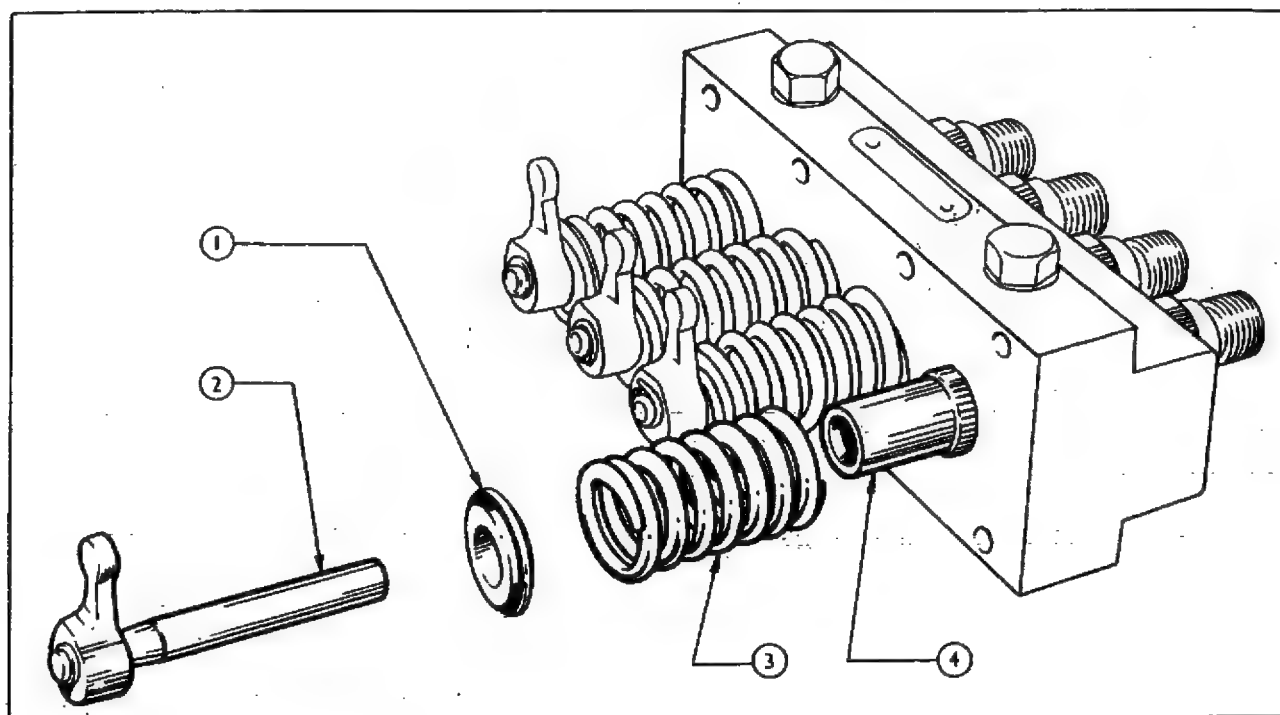

Fig. 20
5. Remove the plungers, springs and lower spring seats from their barrels (Fig. 20) and lay them carefully in the dismantling tray. Tool No. CT.9005, keeping them in their correct positions.